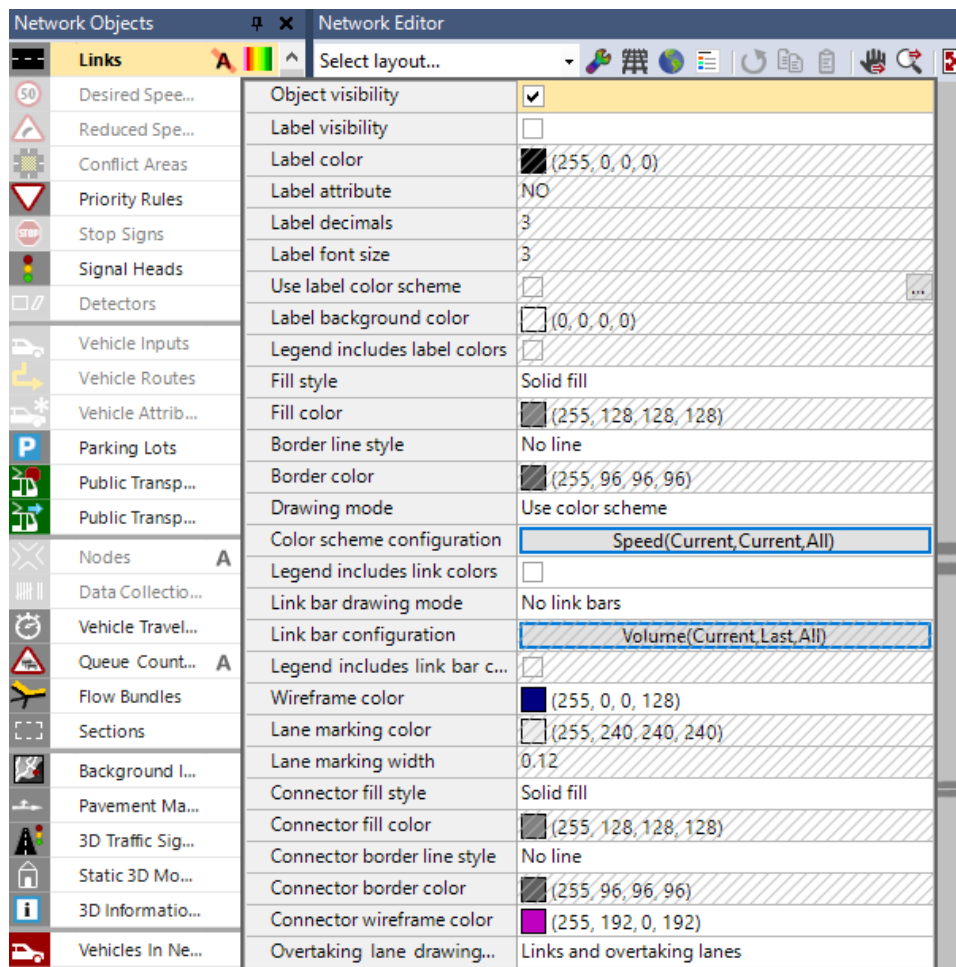

Figure 17: Network Object → Links → Edit Graphics Parameters menu
- step iv. Confirm *Object visibility* box is selected, Figure 17.
- step v. Left-Click *Color Scheme Configuration*, Figure 17.